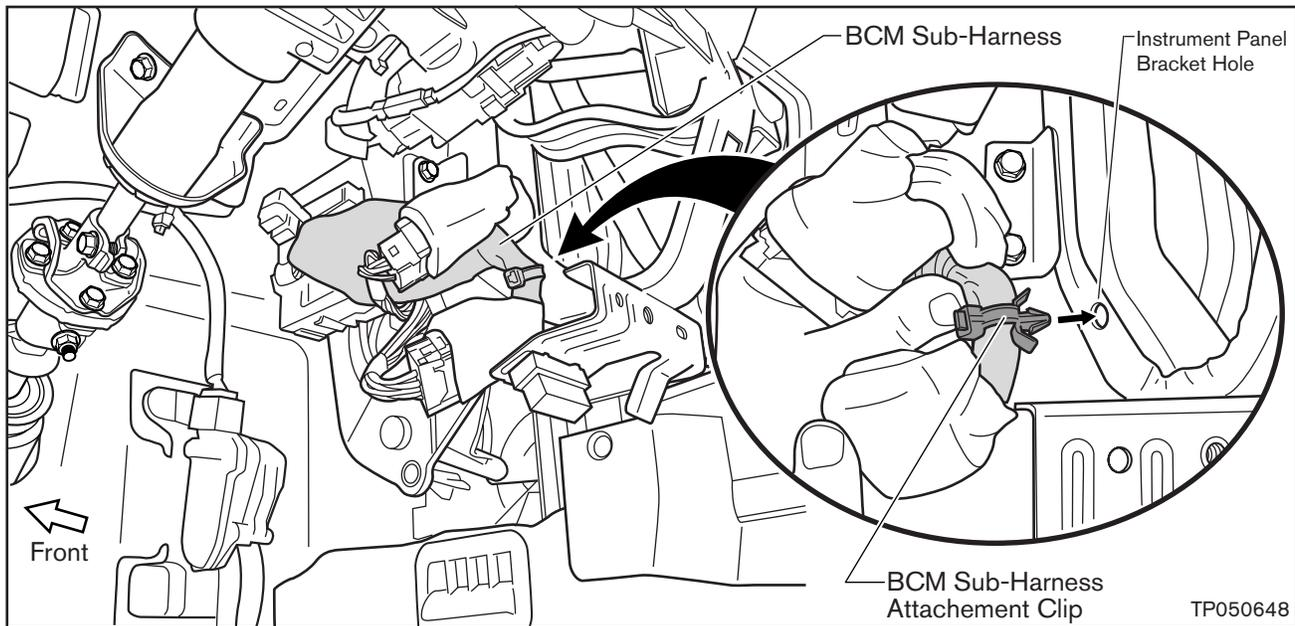

Figure 18
12. Secure the new BCM Sub-Harness by snapping the Attachment Clip into the Instrument Panel Bracket Hole (see Figure 18).